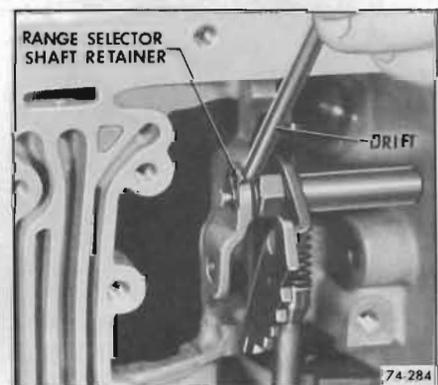

Figure 74-284
9. Install range selector shaft retainer. See Figure 74-284.